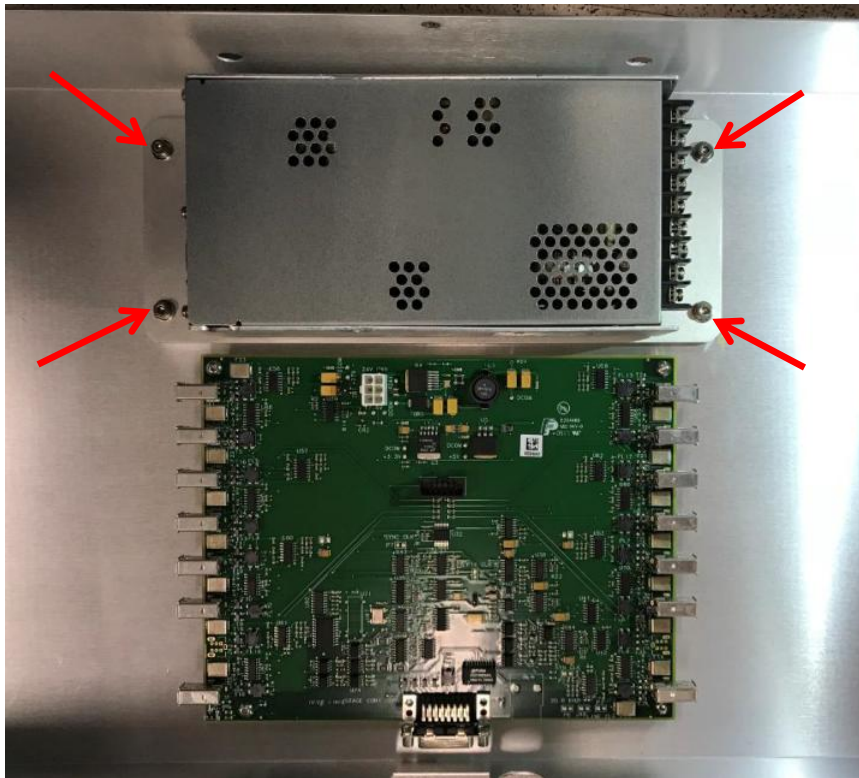

Figure 23 Trigger Board Power Supply & Adapter Assembly
6. Assemble Trigger Board Power Supply & Adapter at Trigger Board Tray as below Figure 23. Tighten 4 pcs M4 x 12 Screws & M4 Spring Locks